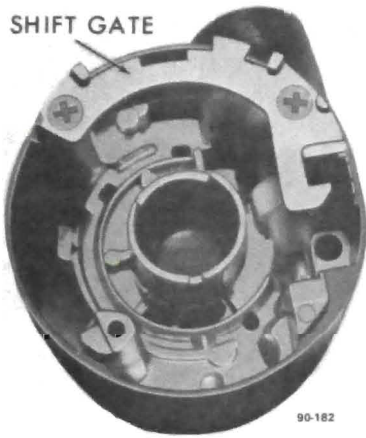

Figure 90-113 Removing Shift Gate
19. Remove the shift gate. See Figure 90-113.